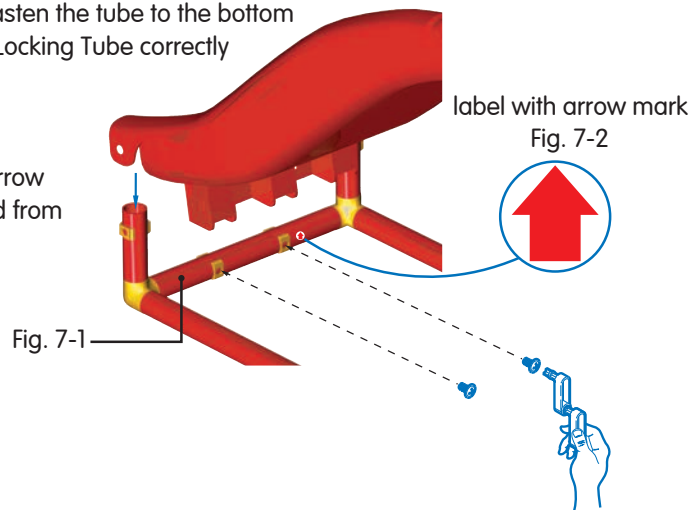

Fig. 7-1
(2) Double Locking Tube (300mm/Red) is the part used to fix the bottom of slide, the nuts on the tube are fixed in a definite angle. If the tube is misplaced, the tube screws can't fasten the tube to the bottom of slide in a proper condition. Please do place Double Locking Tube correctly as Fig. 7-1 shows while assembly.